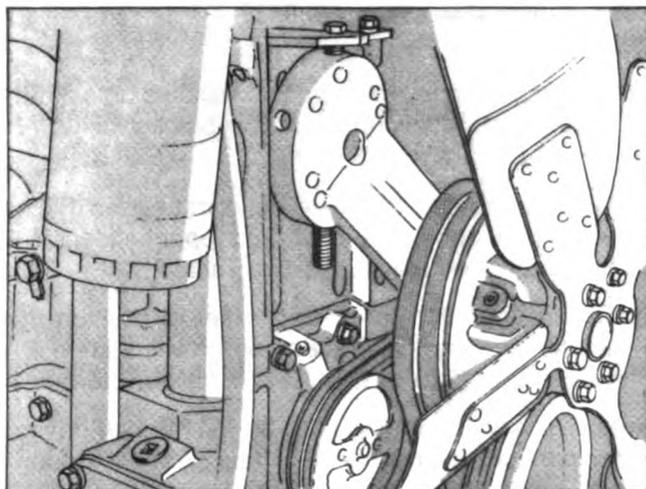

Fig. 2-5. (OM1016I). Fan hub installation, NTC-350 FFC
5. Tighten NH/NT Engines locknut to 400 to 450 ft-lbs [542 to 610 N·m]; then back off 1/2 turn. Tighten the four 1/2 inch capscrews, Fig. 2-5, on NTC-350 FFC Engines to 75 to 85 ft-lbs [101 to 115 N·m].